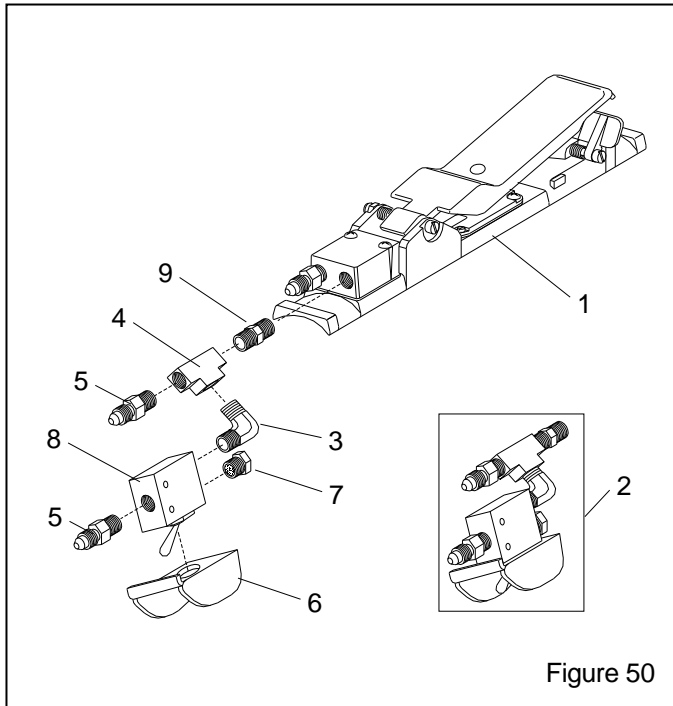

Figure 50
9.7 RLX Pneumatic Control Handle with ACS, Figure 50